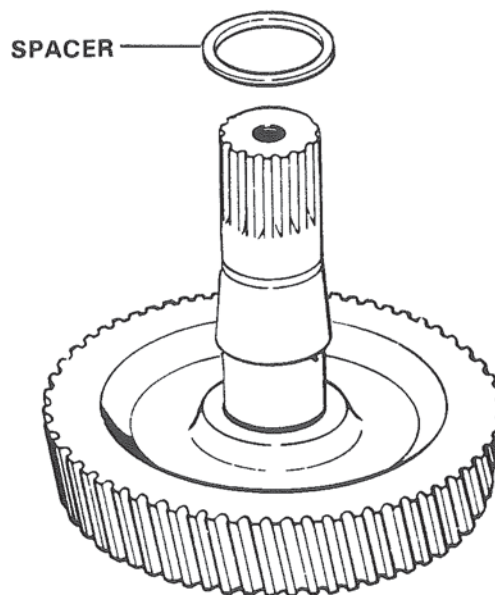

Figure 35. Assembling Output Shaft.
1. **Output Gear.** Assemble gear over shaft taper and seat with 500 lb. force. Press gear in place to achieve .050-.080 advance. Thirty-two (32) tons force is expected. Maximum runout from shaft centers to gear face opposite cone face .005 TIR.
2. Install the output shaft bearing spacer over the shaft and against the rear of the gear hub. Figure 35.